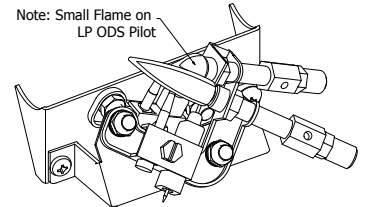
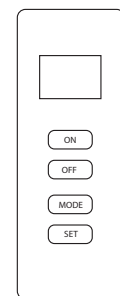

Fig. 27 - Pilot
Fig. 28 - Remote
6. With control knob depressed, push down on the ignitor button until the pilot lights. The pilot's location is behind log #3 near the center of the burner. (See Fig. 27).
7. Keep control knob depressed for (30) seconds after pilot lights. Release control knob.
- If pilot goes out repeat steps 3 through 7. Wait (1) minute before attempting to light pilot again. If after several tries the pilot still goes out, turn the gas control knob clockwise ↷ to the "OFF" position and call a qualified service technician.
9. To use the included thermostatic remote control, set receiver switch to the "REMOTE" position (See Fig. 28). Press the ON button to turn on the remote to ignite the main burner. Refer to the remote control instruction manual on the next page for "MODE" and "SET" functions.